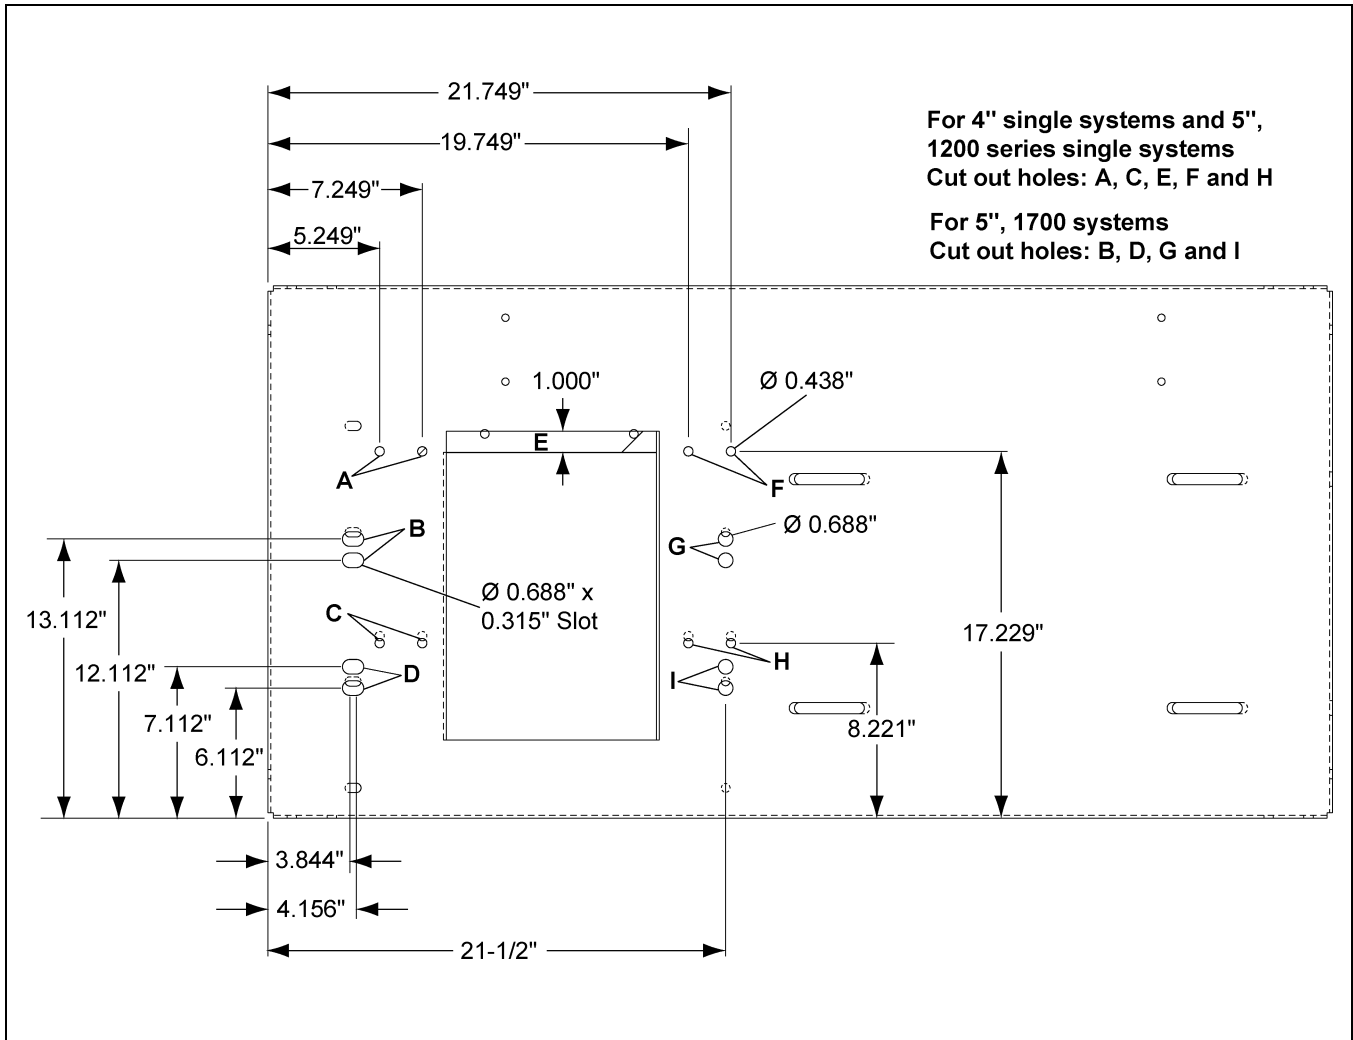

Figure 2
2. Cut out section E on attached Figure 2 on Page 2 for 4" and 5" systems.
3. Drill holes marked A, C, F and H marked in Figure 2 on Page 2.